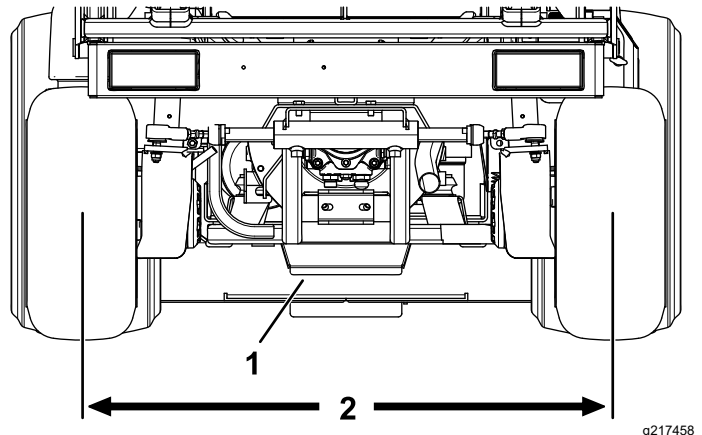

Figure 69
2. Adjust both tie rods until center-to-center distance at front and back of rear wheels is the same (Figure 69).